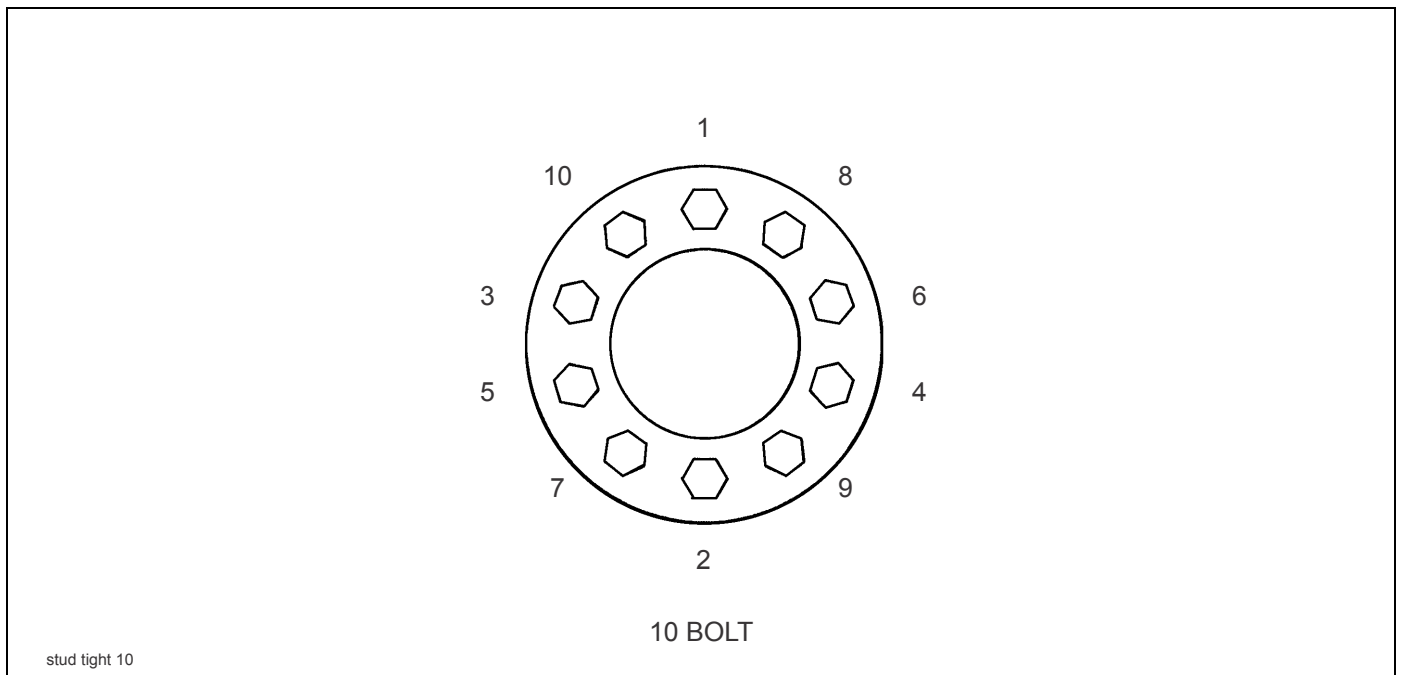

Figure 4-19: Stud Tightening Sequence
4. Install the flange nut (pilot mount) and tighten to 50 foot-pounds using the sequence in **Figure 4-19.** Then tighten to full torque of 450 to 500 foot-pounds.
Improper tightening sequence	Follow proper tightening sequence (See Figure 4-19.)